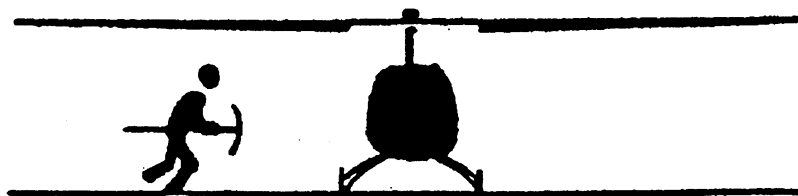

FIGURE 2. CARRYING TOOLS/EQUIPMENT
(2) To avoid contact with the main rotor blade, long pieces of equipment or tools should be carried horizontally at or below waist level. Equipment or tools of this type should never be carried upright and/or over the shoulder. (See figure 2.)